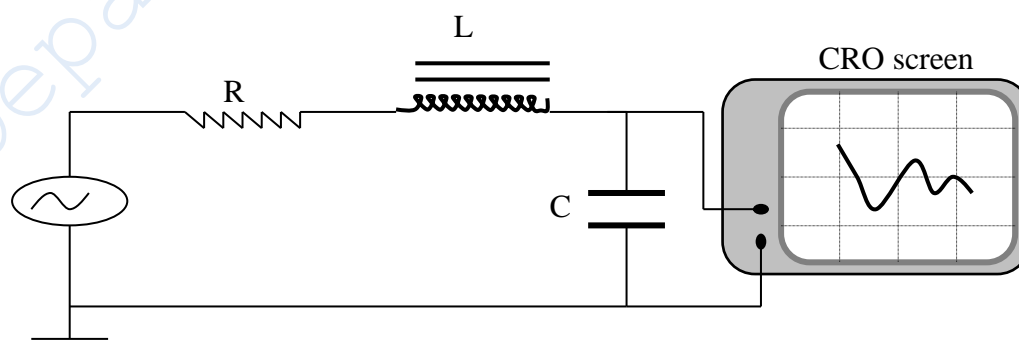

Fig. 21-3
1. Some RCL circuits have already been prepared on circuit boards. Choose the one with $R = 100\ \Omega$ and connect the oscilloscope to the terminals as shown in Fig. 21-3.